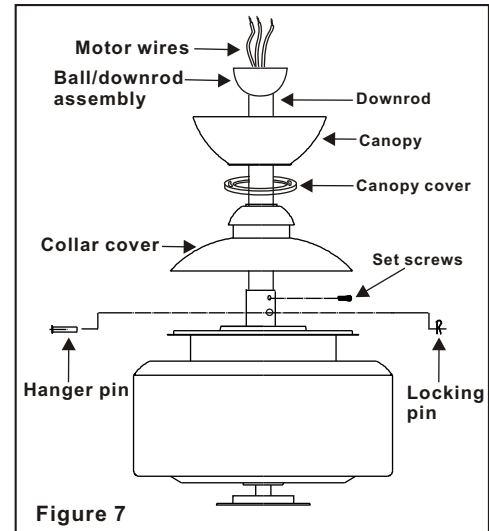

Figure 7
**Step 6.** Route wires exiting from the top of the fan motor through the collar cover, canopy cover, canopy and then through the ball / downrod.(Fig. 7)
**Step 7.** Align the holes at the bottom of the downrod with the holes in the collar on top of the motor housing (Fig. 7). Carefully insert the hanger pin through the holes in the collar and downrod. Be careful not to jam the pin against the wiring inside the downrod. Insert the locking pin through the hole near the end of the hanger pin until it snaps into its locked position, as noted in the circle inset of Fig. 7.
**Step 8.** Tighten two set screws on top of the fan motor firmly. (Fig. 7)